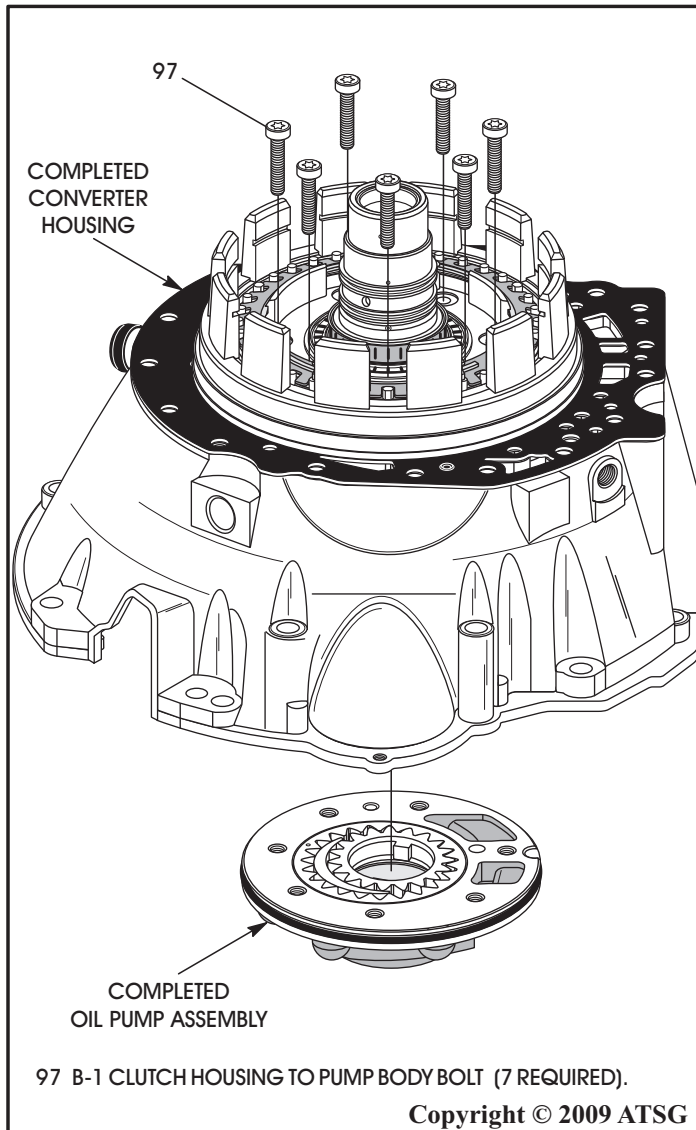

Figure 75
35. Install the completed oil pump into converter housing pocket, as shown in Figure 75.
36. Align the pump holes using a No. 2 phillips screwdriver and install the 7 clutch housing to oil pump bolts, as shown in Figure 75.